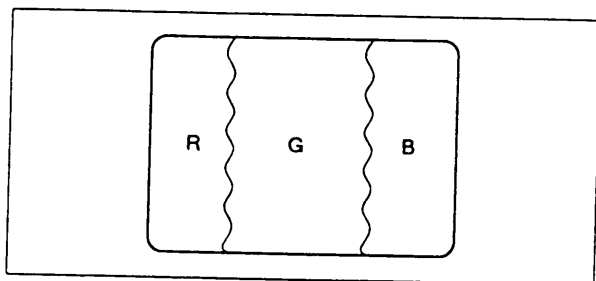

Fig. 6-3-4
- 6) Adjust the purity magnets so that the green is positioned at the center of the screen. (See Fig. 6-3-4)